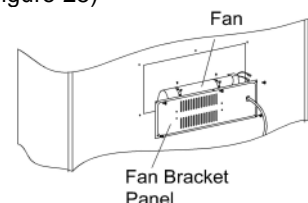

Figure 23- Fan
2. Mark or tag each wire removed for its exact reconnection. Remove the four screws from the fan. When installing, reverse the steps above. (See Figure 23 and Figure 25)